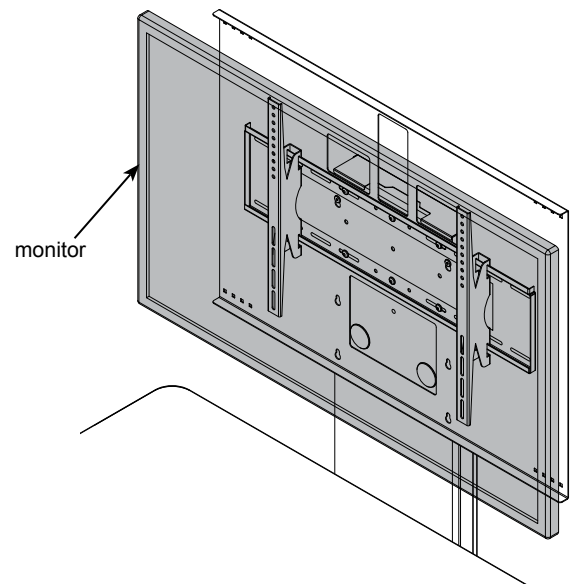

Figure 3
- Install monitor to display stand. **Figure 3.**